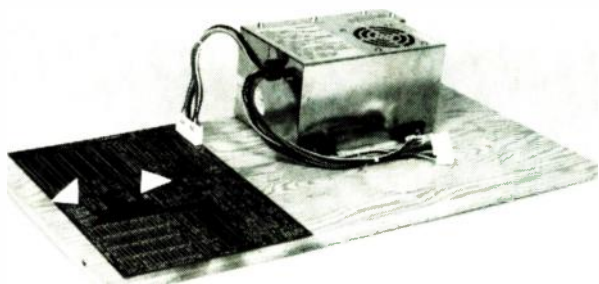

FIG. 2—MOUNT THE PT68K on a 12" × 24" slab of wood.
- A 12" × 24" wooden board to mount the PC board and power supply so you can work on them easily. (See Fig. 2). Don't fasten the PC board to the wood; just hammer two thin brads into the wood so the board's mounting holes slip over them to prevent the board from sliding. The white markers in Fig. 2 indicate which holes to use.